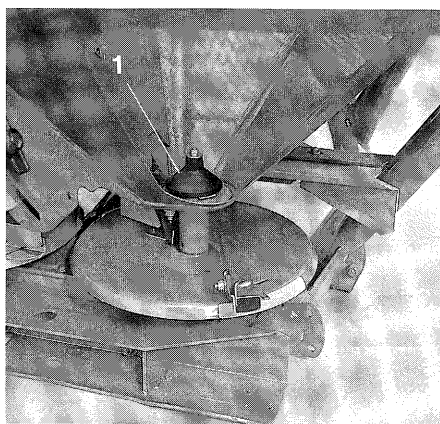

Fig. 4.2
**Conus-stirrer** heads (Fig. 4.2/1) in the bottom of the hoppers provide an even flow of fertiliser onto the **"Omnia-Set"** spinner discs. By the rotating smooth cones the fertiliser is gently guided with slight pressure to sideways run out of the hopper opening - from there it drops vertically down onto its corresponding spinner disc.